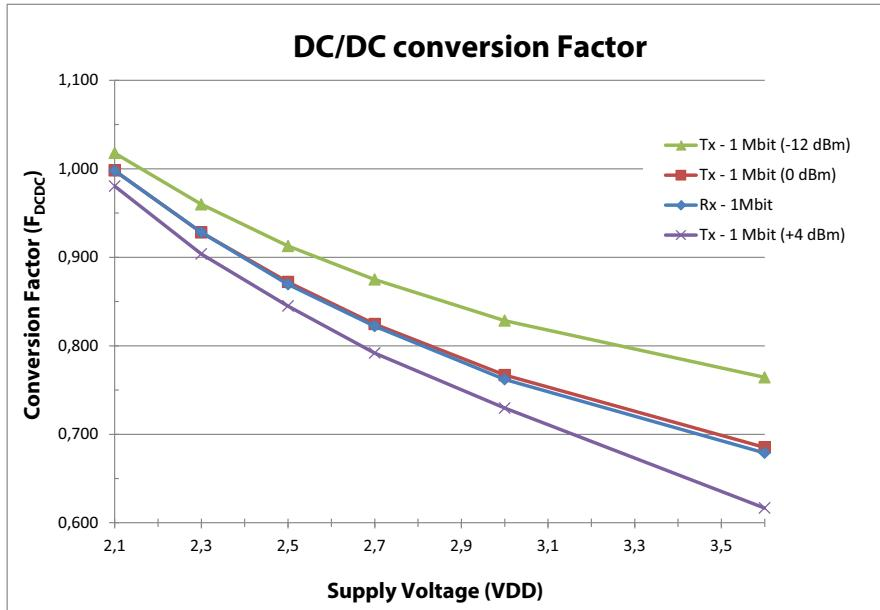

Figure 11 DC/DC conversion factor as function of VDD
4. F_{DCDC} will vary depending on VDD and internal radio current consumption (I_{DD}). Please refer to the *nRF51 Series Reference Manual*, v3.0 or later, for a method to calculate $I_{DD,DCDC}$. See **Figure 11** on page 50 for a DC/DC conversion factor chart.